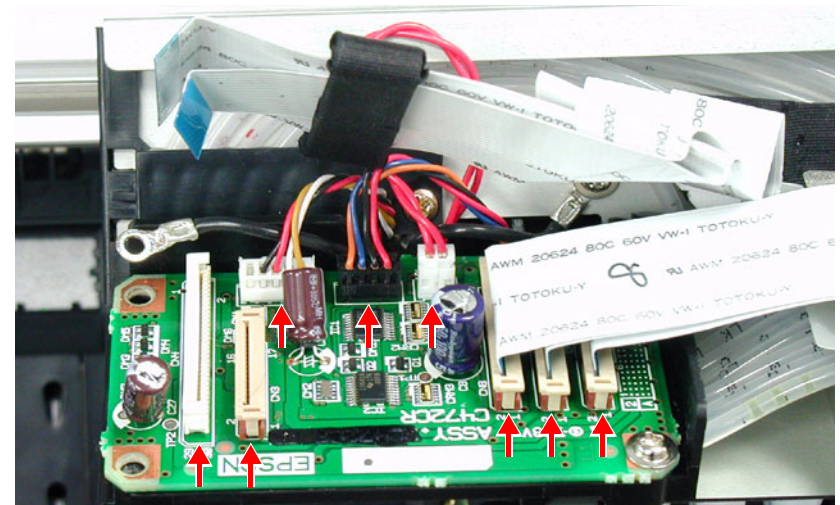

Figure 4-31. CR Board Connectors Disconnection
6. Disconnect the following eight connectors (with lock) connected to the CR Board. (See Figure 4-31)
7. Disconnect the following three connectors on the CR Board. (See Figure 4-31)